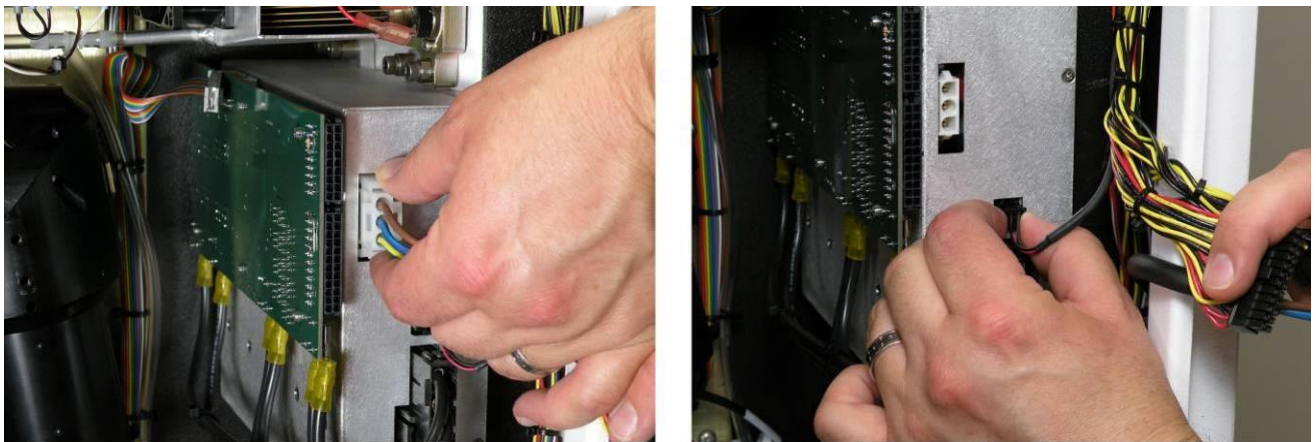

Figure 122. Remove connectors from power supply
3. Remove the connectors from the power supply (Figure 122).